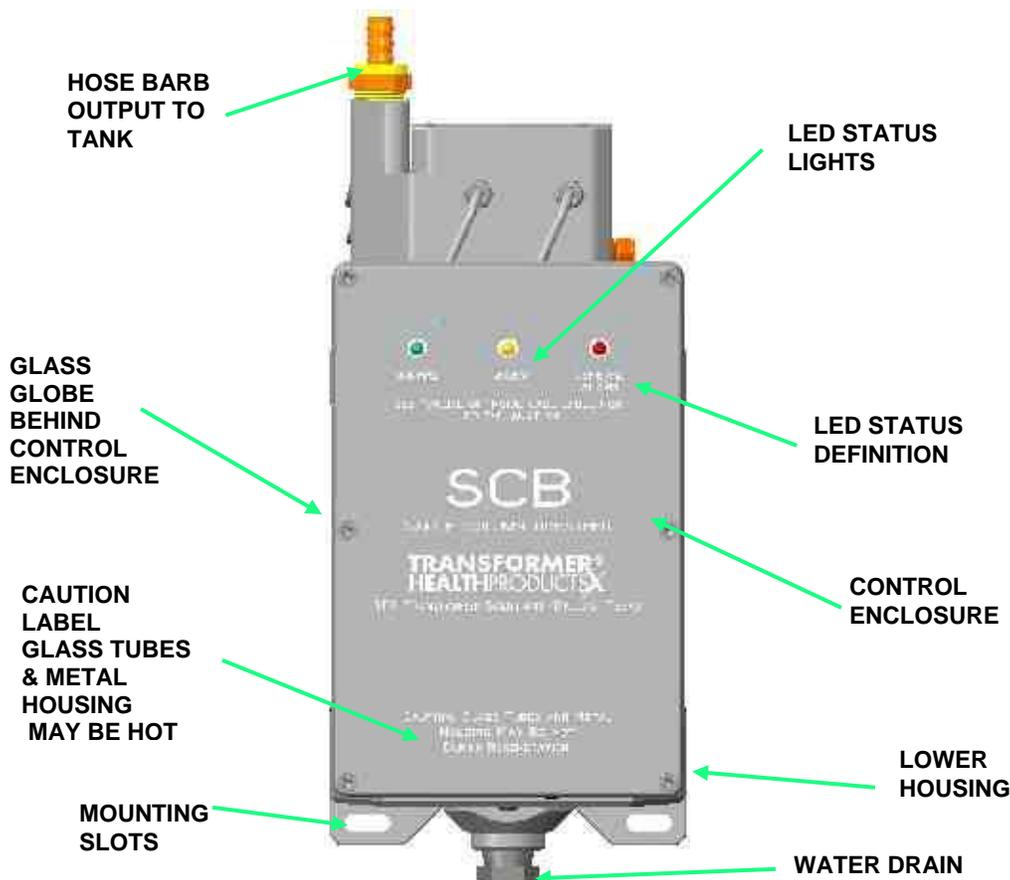

Figure 3 – SCB Major Components
3. Install included hose barb securely (see Figure 3 on page 10). Use of thread sealant or thread tape (if hose barb is not already pre-Teflon taped) is required to prevent water from flooding the silica gel chamber.